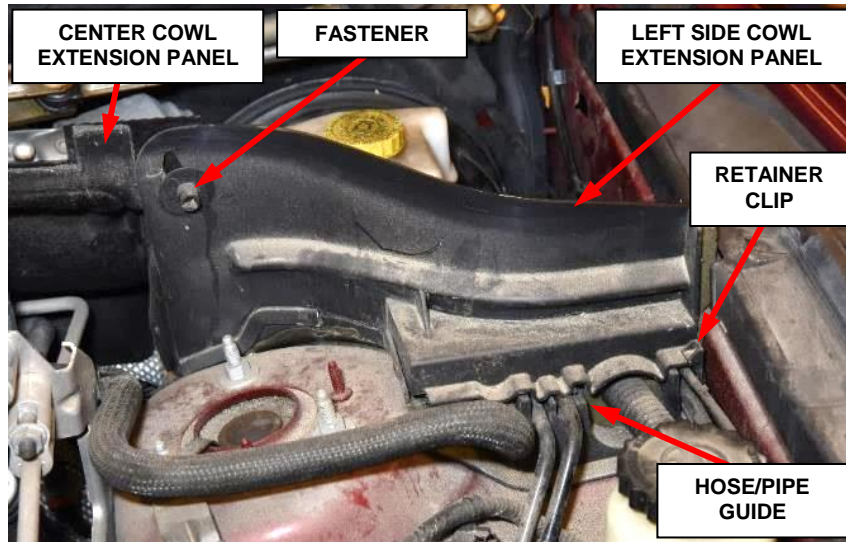

Figure 31 – Left Side Cowl Extension Panel
4. Install the nut securing the left side extension panel to the center extension panel. Tighten the nut securely (Figure 31).